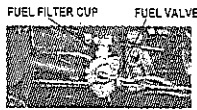

Figure 16- Removing the Fuel Filter Cup
2. Unscrew the fuel filter cup from the fuel valve using a wrench. Turn the valve toward you to unscrew (see figure 16).